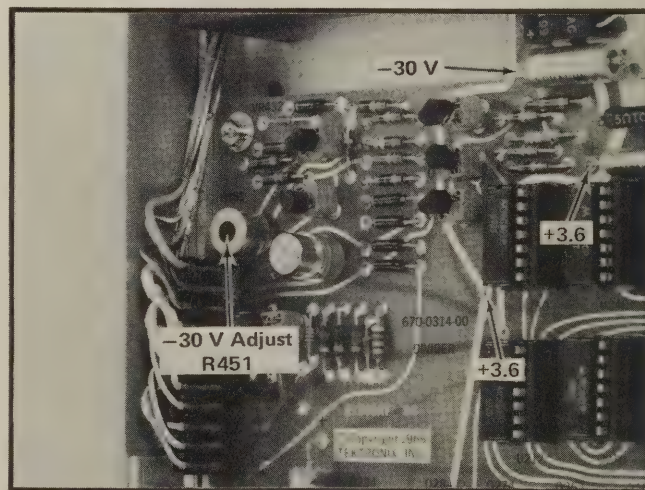

Fig. 5-2. Power supply voltage test points and adjustments.
- b. Connect the DC voltmeter between the —30 V buss or terminal and chassis ground (see Fig. 5-2).
- c. ADJUST —30 Volt Adjust R451 (Fig. 5-2) for —30 volts.
- b. Connect the DC voltmeter and the 1X probe from the test oscilloscope to the —30 volt buss (see Fig. 5-2).
- d. Connect the DC voltmeter and the test oscilloscope probe to the +3.6 V buss or terminal (Fig. 5-2).